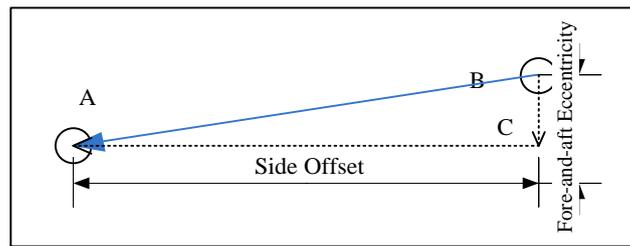

Fig. 3-4 Tools and Eccentricities
- The Fig. 3-4 above shows the characteristic points of tools. It is a top view.
- **All in all, side offset is tool's offset in X axis, and fore-and-aft eccentricity is tool's offset in y axis.** According to the above definition, we can know that the value of side offset of B to A is negative and the value of fore-and-aft eccentricity of B to A is also negative in Fig. 3-4.